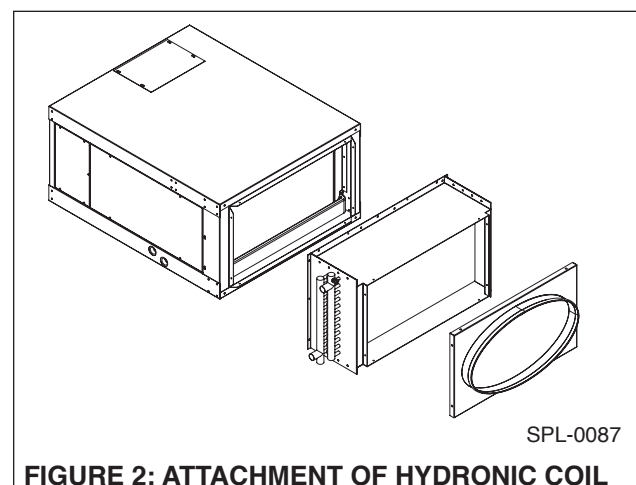

FIGURE 2: ATTACHMENT OF HYDRONIC COIL
6. Attach return air panel to coil using removed screws as shown in Figure 2.